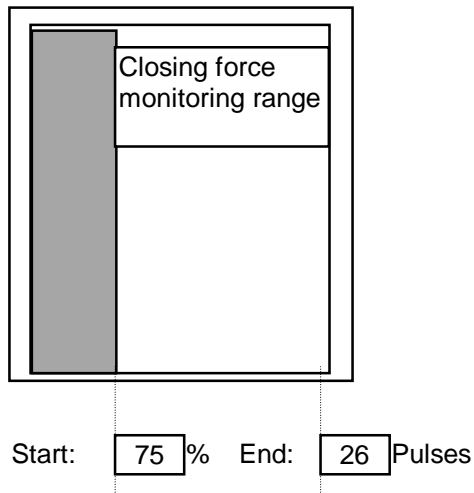
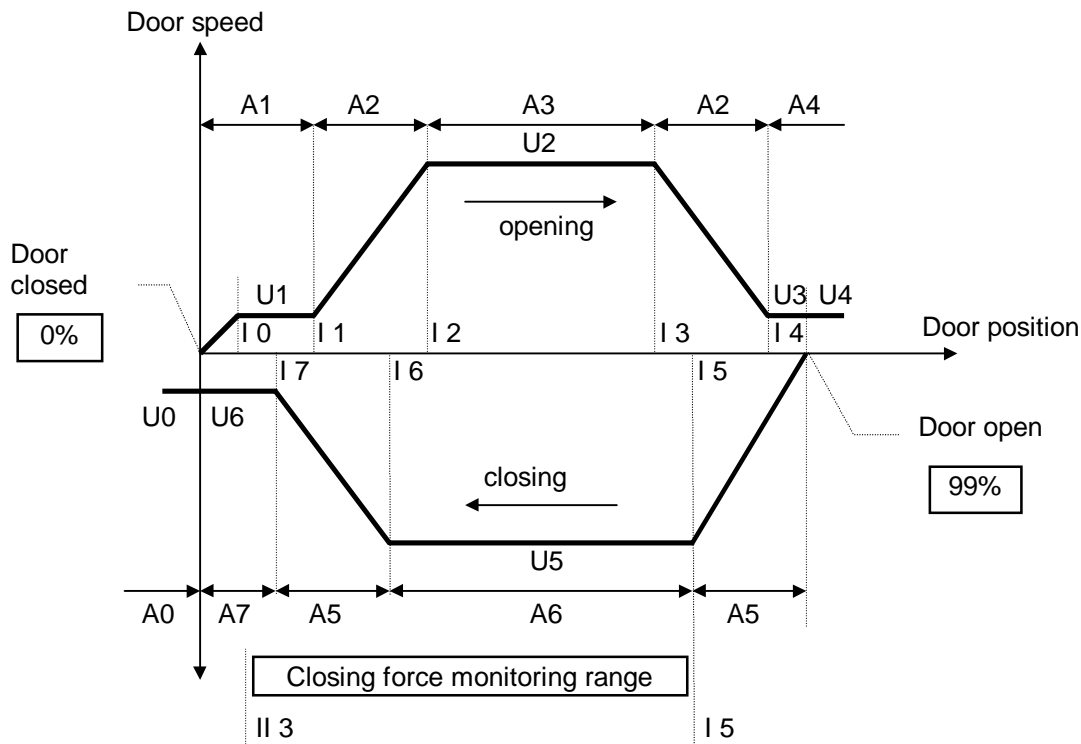

Figure 6
Figure 8
With **Parameter (I 5)** the beginning of the closing force monitoring range is set in % of door width (see figure 6, page 21 and figure 8, page 24).
• Braking range too short	• Decrease parameter value of (I 3) (i.e. shift to the left, the braking range is thereby increased, see door travel, figure 8, page 24)